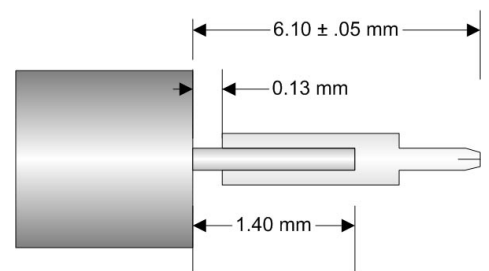

Figure 3. Cable End with Center Conductor
- Using an X-ACTO-type knife or razor blade, carefully remove the Teflon dielectric behind the center pin flush with the outer conductor (Figure 3). Do not score the center conductor.